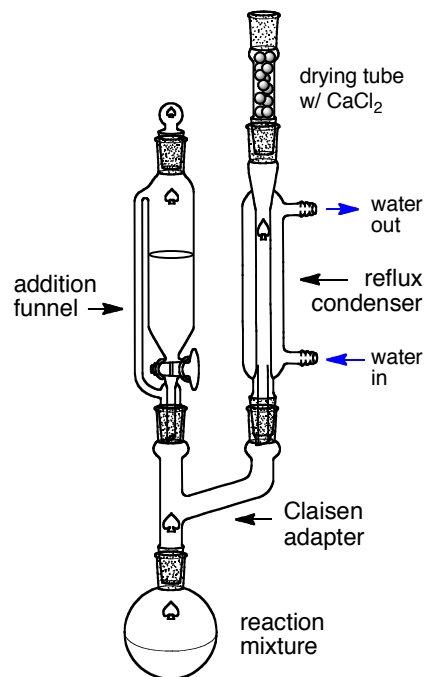

Figure 1. Reaction setup
- Prepare a clean and dry 250 mL round bottom flask with a small stir bar and sand bath placed on top of a heating mantle. **(DO NOT wash glassware the day of the experiment!)**. Attach a dry Claisen adapter equipped with an addition funnel and reflux condenser. To the reflux condenser attach a CaCl₂ drying tube (the set-up is similar to that shown in Figure 1). Let it cool.